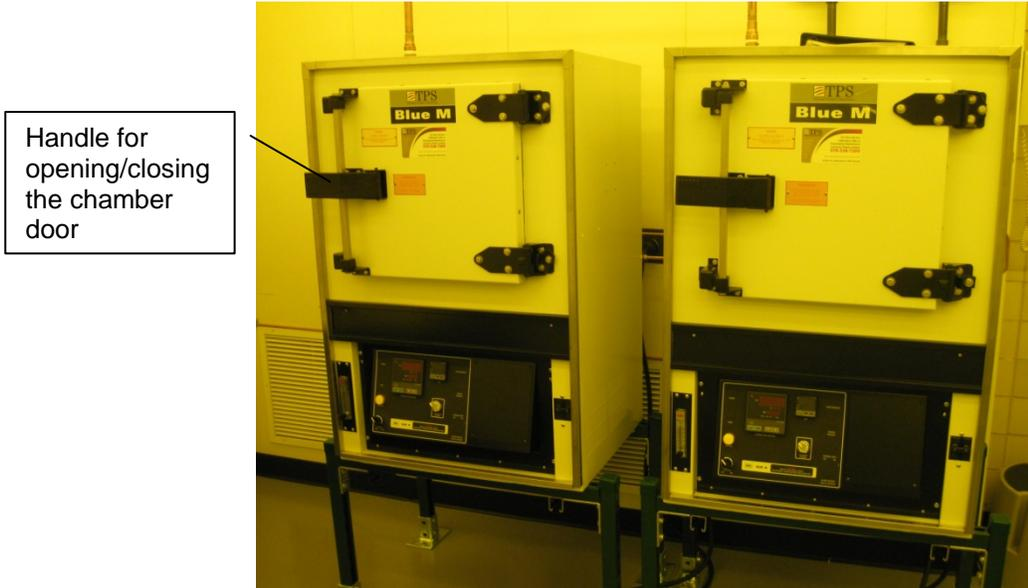

Figure 1: Blue-M Convection Ovens (Model DCC-146-C-ST350).
NUFAB has two Blue-M ovens as shown in Figure 1. Blue-M Ovens are for baking photoresist on silicon or quartz/glass wafers only. Any other parts and materials other than photoresist must be approved by the staff before use. Both ovens are identical and this document applies to both.
- a) Open the chamber door by pulling on the handle completely as shown in Figure 1.